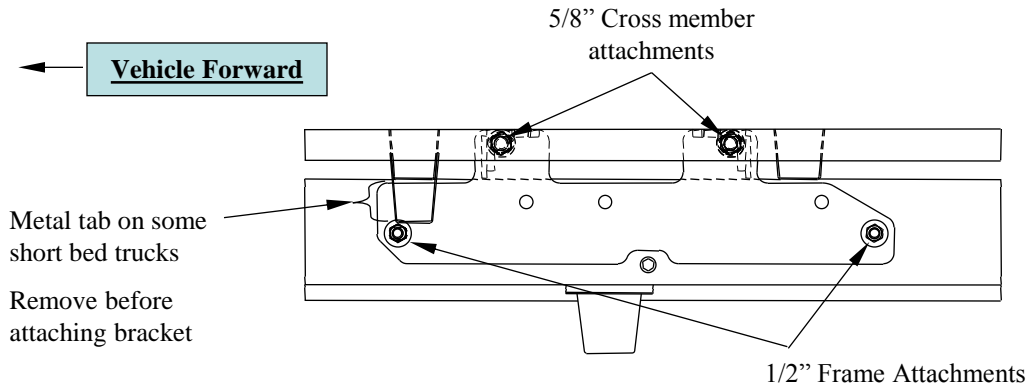

Figure 3
5. On some 6' beds, there is a metal tab attached to the bottom of the forward bed sill outside the frame (see Figure 3). These tabs are a feature that the manufacturer used to locate the bed on the frame at the factory and have no useful purpose afterward. Remove these tabs so that the frame brackets can be installed.